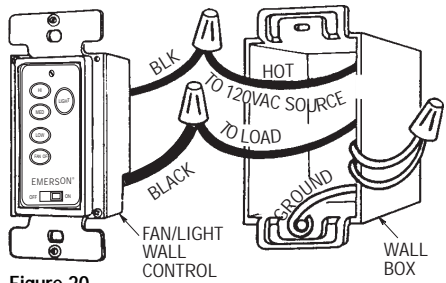

Figure 20
4. Connect one black wire of wall control to the "hot" wire. Securely connect wires with wire connectors supplied (Figure 20).